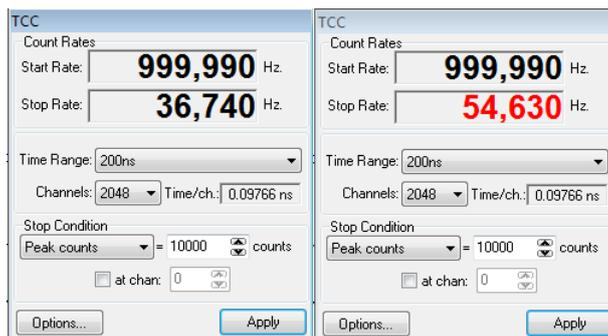

Figure 6-9: TCC setup: control over 5% rule for TSCPC measurements
- b. The lower dialogue box has a display of the two rates: **Start Rate** = pulse repetition rate from the excitation source; **Stop Rate** = signal count rate from the detector. This signal will be shown in red if it exceed threshold of 5% from Start Rate (Figure 6-9: TCC setup: control over 5% rule for TSCPC measurements).